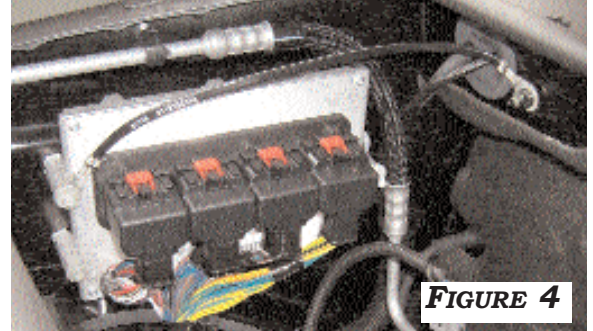
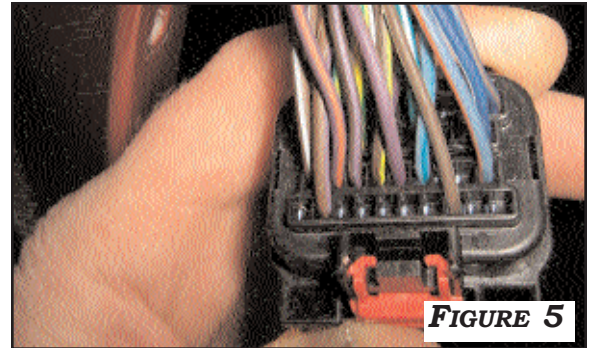

FIGURE 4
FIGURE 5
4. LOCATE THE (3) METAL CLIPS BEHIND THE STEERING WHEEL. USE A MIRROR FOR A BETTER VIEW AS AN OPTION. **FIGURE 4**
2. **DODGE CARAVAN, JOURNEY, AND TOWN & COUNTRY** APPLICATIONS: LOCATE FOUR CONNECTOR ECM AT DRIVER SIDE FENDER WELL BEHIND SPLASH GUARD AT FRONT WHEEL. **DODGE NITRO AND JEEP LIBERTY** APPLICATIONS: LOCATE ECM AT PASSENGER SIDE FENDER WELL. GO TO THIRD CONNECTOR (WHITE ON BOTTOM SIDE). **FIGURE 4**. REMOVE TOP OF CONNECTOR. LOCATE **PIN 15 VIOLET/BROWN WIRE, PIN 18 VIOLET/ORANGE WIRE, AND PIN 34 VIOLET WIRE. FIGURE 5**. IF WIRES ARE PRESENT, THEN VEHICLE IS PREWIRED. SKIP TO CONTROL SWITCH INSTALLATION. IF WIRES ARE NOT IN THE POSITIONS, USE **CLOCKSPRING/ECM HARNESS** SUPPLIED IN KIT.